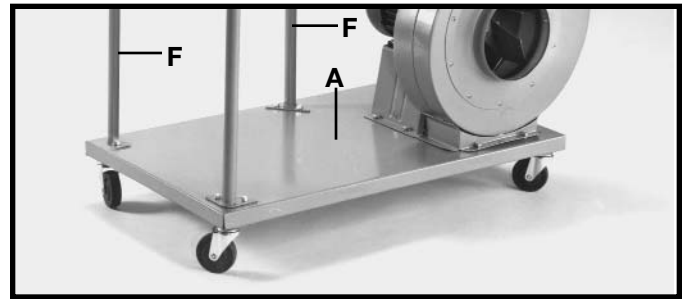

Fig. 9
4. Assemble the remaining drum supports (F) Fig. 9, to base (A) as shown.